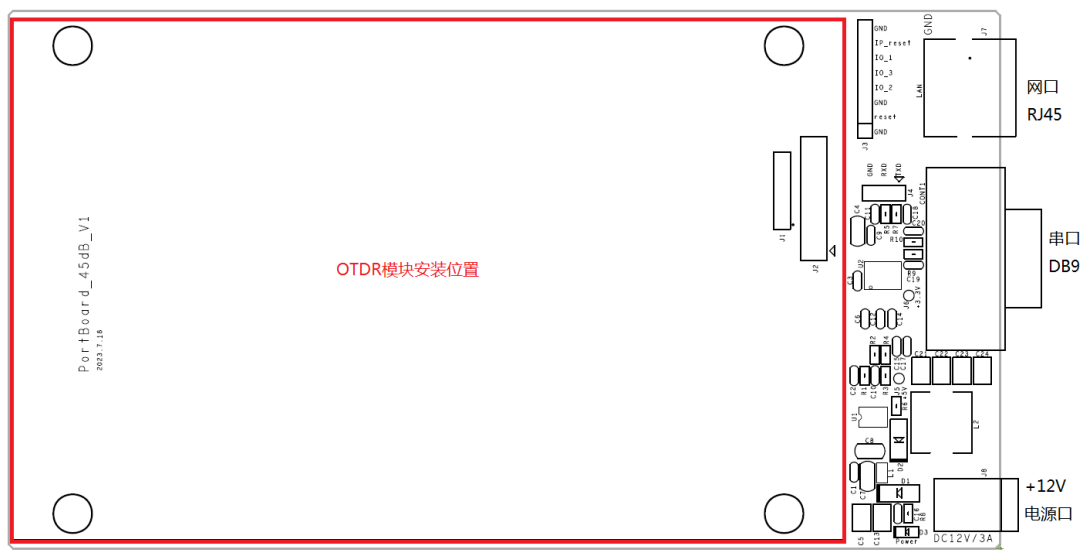

Figure 4: Test connection diagram for the interface board
- 4) Power the module via the power supply port on the dedicated interface board Portboard\_45dB\_V1 (or other device). Refer to Figure 4 for a detailed schematic of the test connection for the dedicated interface board Portboard\_45dB\_V1;